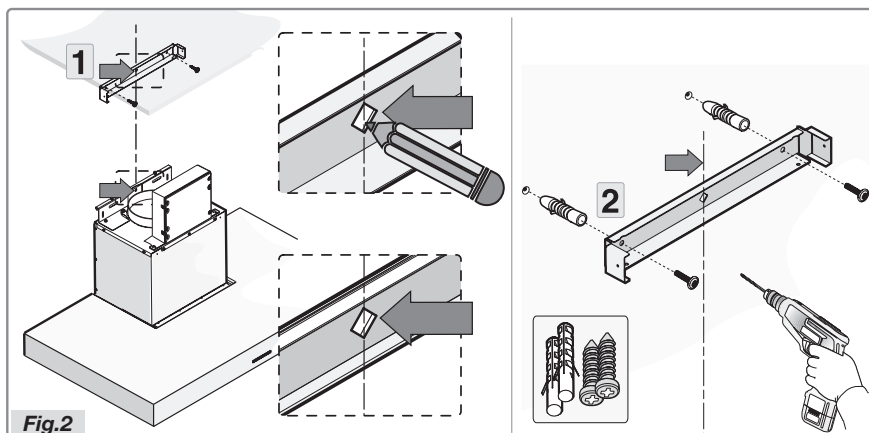

Fig.2
- Position the bracket referring to the dimensions in Figure A and secure this with the supplied screws and plugs (Fig. 2).